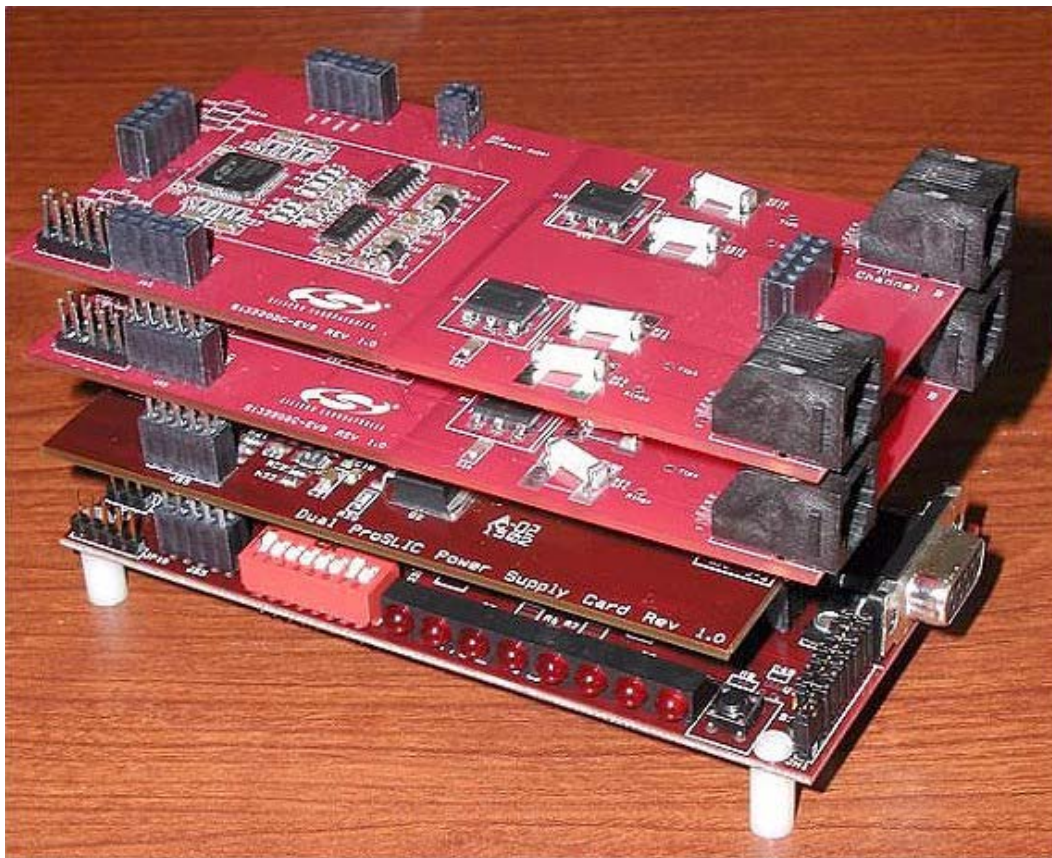

Figure 1. Four Channel Si3220 System Demonstration Setup
To set up the system demonstration using the Si3220 or Si3225, stack the boards as illustrated in Figure 1. The setup (from bottom to top) consists of an 8-bit Microcontroller Board (SiLINKMP-EVB), a Dual ProSLIC Power Supply Board (SiLINKPS-EVB), and two Dual ProSLIC Evaluation Boards (Si3220DC0-EVB or Si3225DC0-EVB). Up to eight dual-channel evaluation boards (EVBs) can be stacked above the Microcontroller and Power Supply Boards to create up to a 16-channel POTS system. The required input voltage for use with the Si3220 system is 12 V at J1 of the Dual ProSLIC Power Supply Board. JP3 and JP4 need to be set on the Power Supply Board for the appropriate V_{BAT} ; the system requires a V_{BAT} of -78 V. If the Si3225 is being used, a ringing signal should be connected at JP7 on the 8-bit Microcontroller Board. With the Si3220, no ringing signal is needed. Connecting a db-9 cable between J1 and a serial port of the PC allows access to a wide variety of software configurable features. This is done using a console window such as HyperTerminal, which is provided with the Microsoft® Windows® product family. When setting
6. Stack the boards as shown in Figure 1.